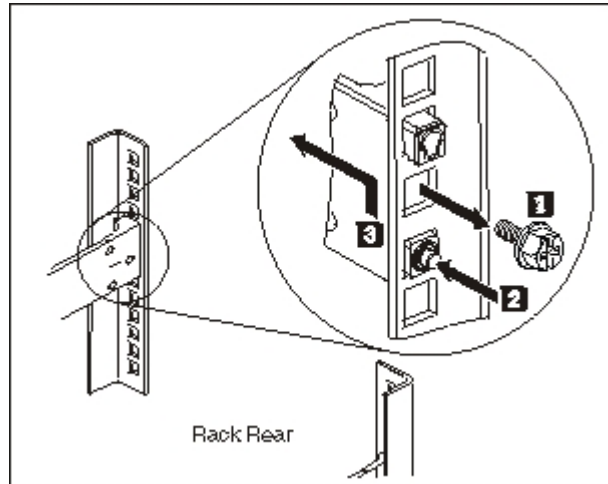

Figure 22. Lifting the rear of appliance off the rail
3. Remove the rear end of the slide rails, as shown in Figure 22 on page 51.